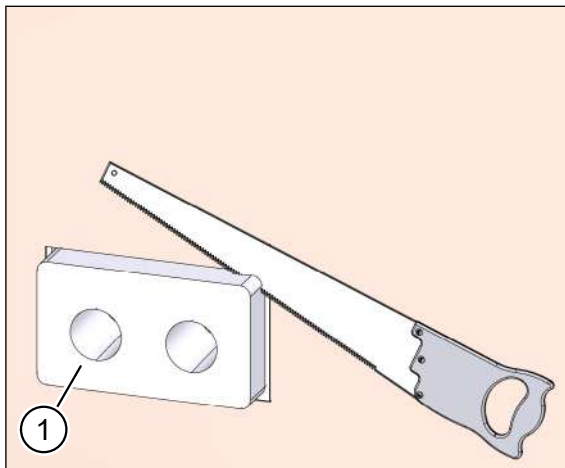
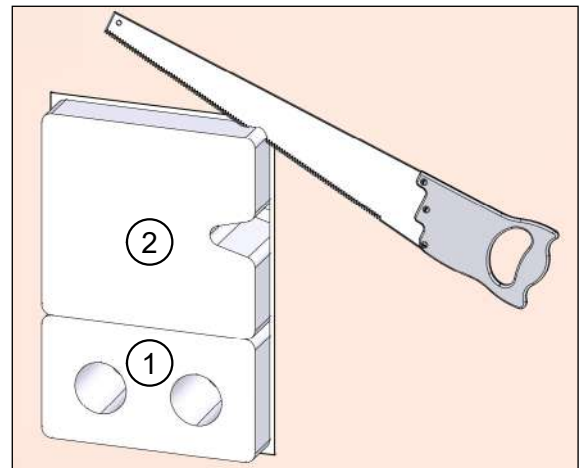

Fig. 34: Aligning the wall box **without** filler piece
Fig. 35: Aligning the wall box **with** filler piece
- ▶ Use a Styrofoam saw to cut off the excess wall box (item 1 in Fig. 34 and Fig. 35) and filler piece, if necessary (item 2 in Fig. 35), so that they are flush with the external wall side or any attached insulation.